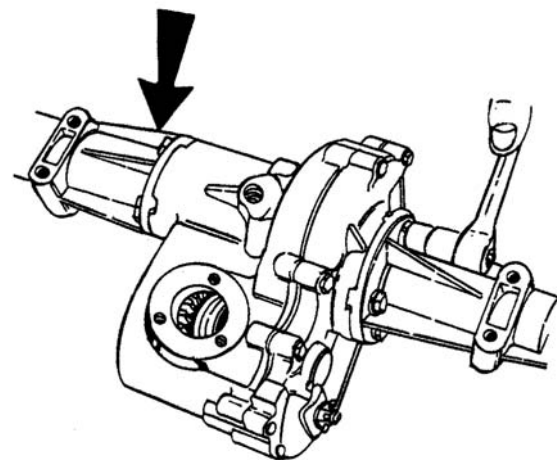

Figure 5-5. Axle Carriers
5. Remove the two axle carriers by removing four hex bolts and lock washers on each axle. A 9/16 inch wrench is required. See Figure 5-5.